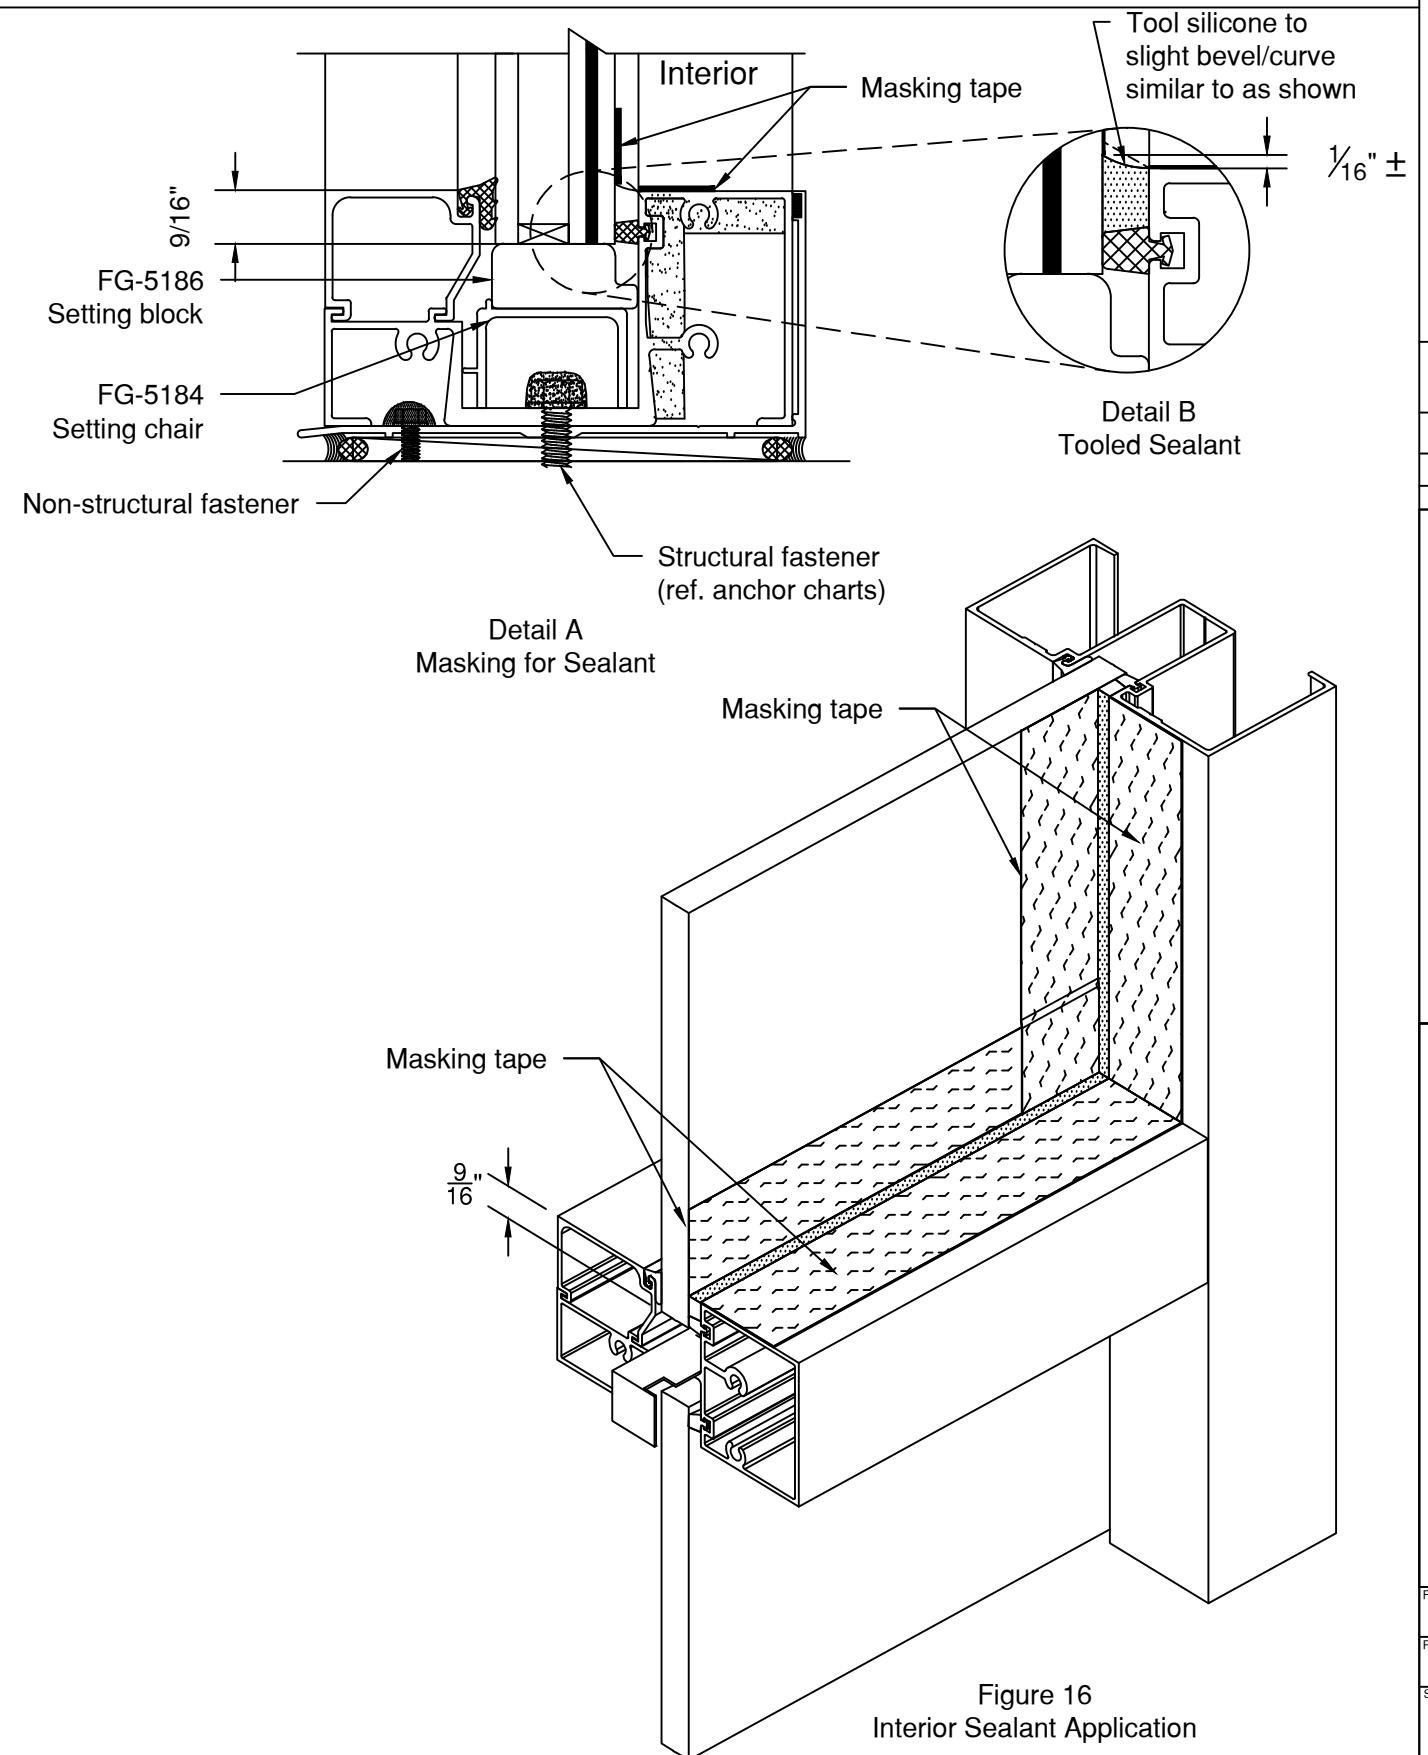

Figure 16
- 4W.2.1 Set glass into opening, push in to deep pocket first, at sill place glass on FG-5184 setting chair, then after centering in DLO , pull glass up and position FG-5186 setting block on setting chair (at 1/4 points) **See figure 16 on sheet 10**. At horizontal same procedure is used, except no setting chair is used.
4W.2.6 Mask off glass and aluminum with 1" wide (minimum) low adhesion masking tape. **SEE Figure 16.** Working a single DLO at a time, Fill cavity around full perimeter of DLO with Dow Corning® 995 sealant as shown, care should be taken not to leave any voids and eliminate air bubbles in sealant **(See Detail. A).** Immediately tool , creating a finished joint with a beveled/curved joint surface **See detail B above right.**